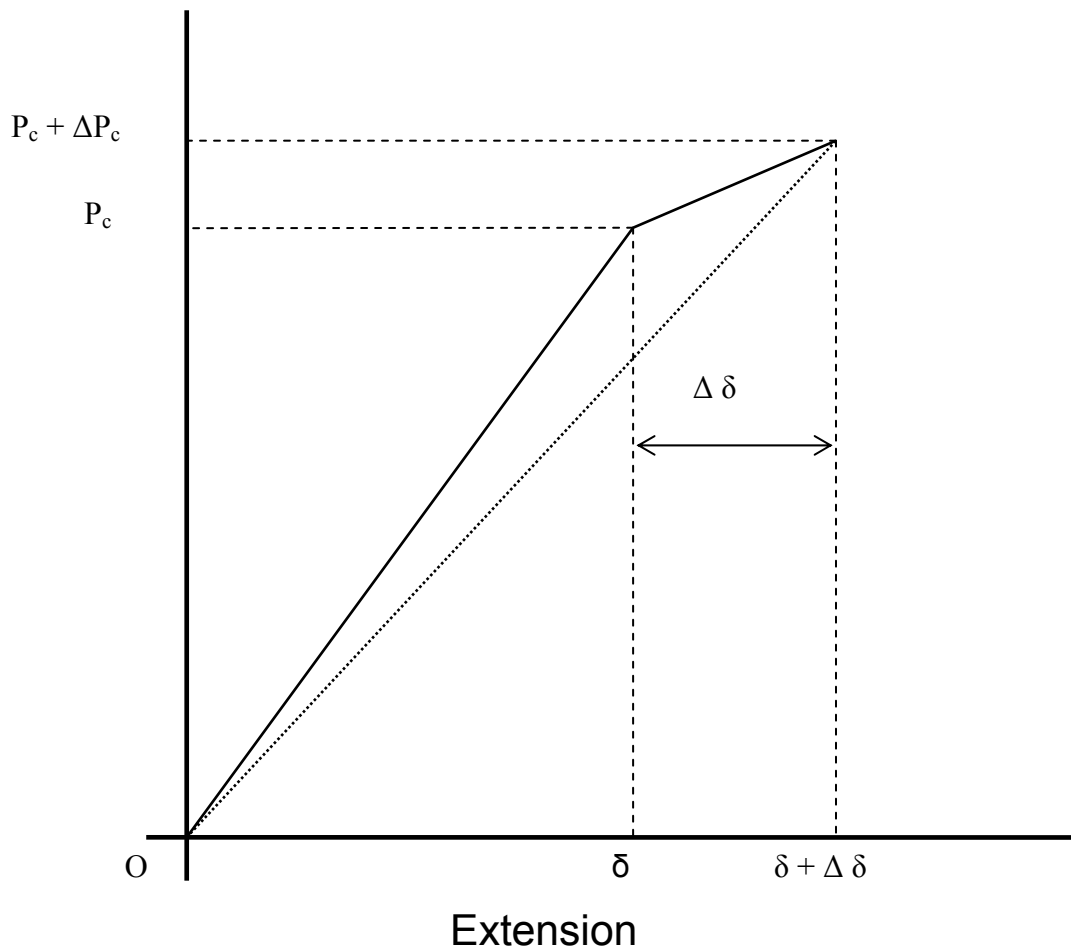

Figure 1
- (b) Based on Irwin-Kies Relationship and Figure 1, indicate that strain energy release rate (G) is